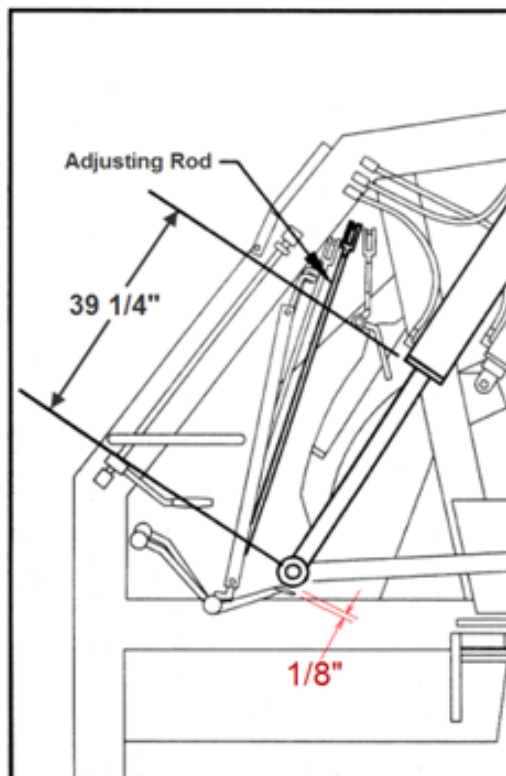

Figure 14 Kick-Out Adjustment
5. Disconnect the top kick-out on the tailgate control lever by removing the retaining cap screw from the kick out pivot and pull control lever off the pin. See Figure 14 Ejector Unload Valve.